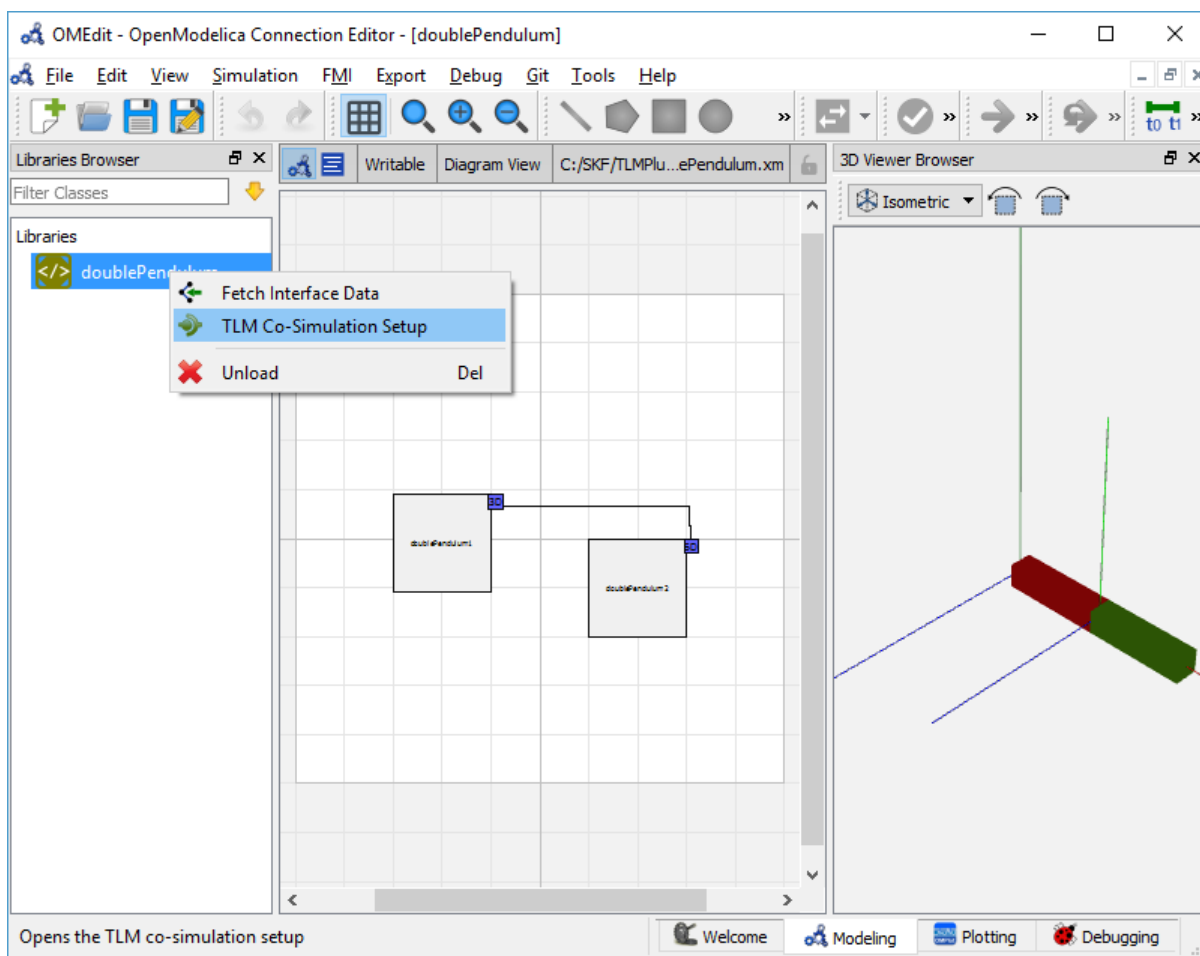

Figure 8.2: Co-simulating and Fetching Interface Data of a composite model from the Pop-up Menu .
- Right click the composite model in the **Libraries Browser** and choose **TLM Co-Simulation setup** from the popup menu (see Figure 8.2)
- Right click the composite model in the **Library Browser** and choose **Fetch Interface Data** from the popup menu (see Figure 8.2).